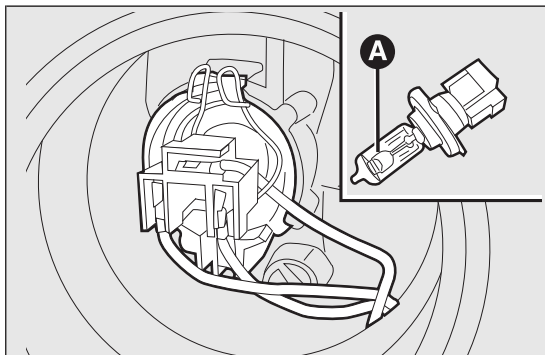

fig. 147
- ❑ remove the bulb A fig. 147 from connector B and replace it;